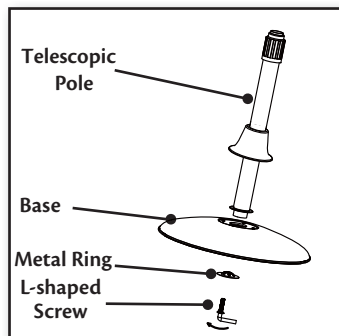

Figure 7
2. Remove the L-shaped screw and metal ring from the telescopic pole by turning it counter clockwise. Figure 7.